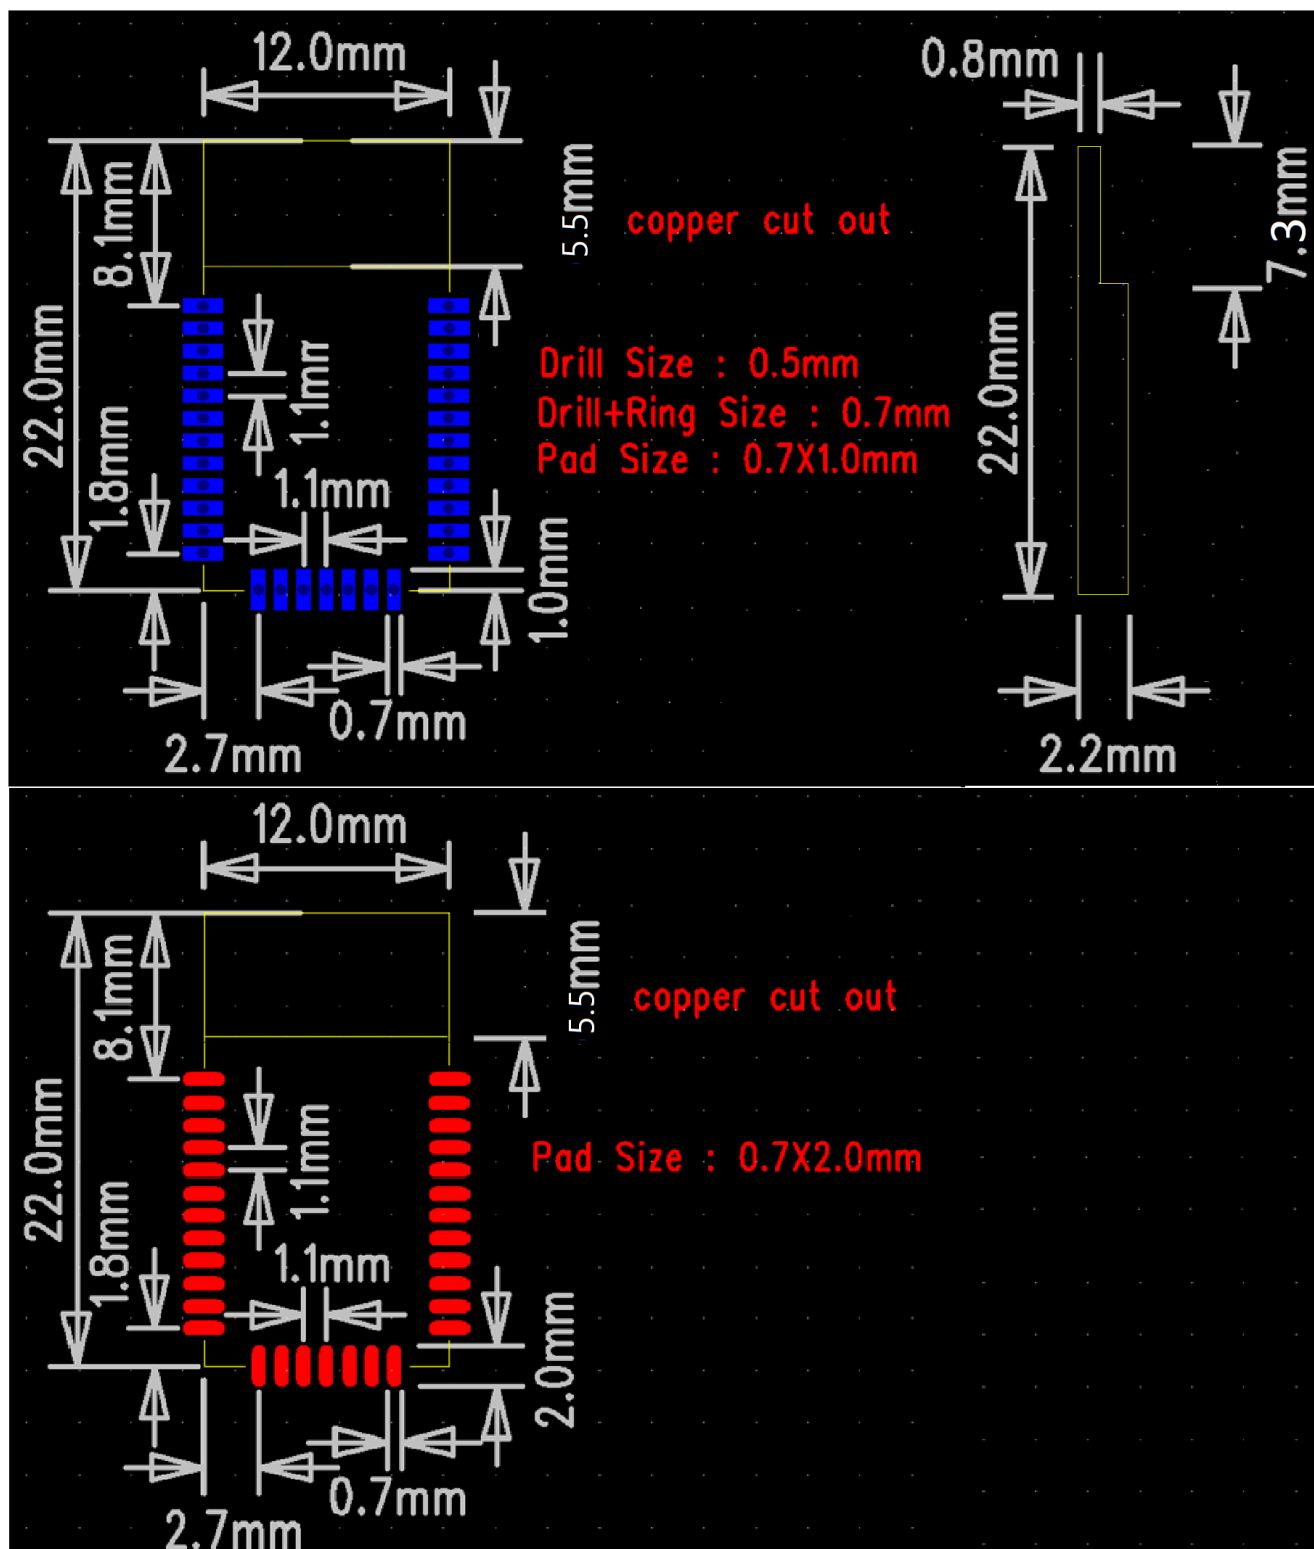

Figure 4: Mechanical Size and Recommended PCB Footprint
1. No ground below antenna region (copper cut out in Figure 4) of the FMB100.